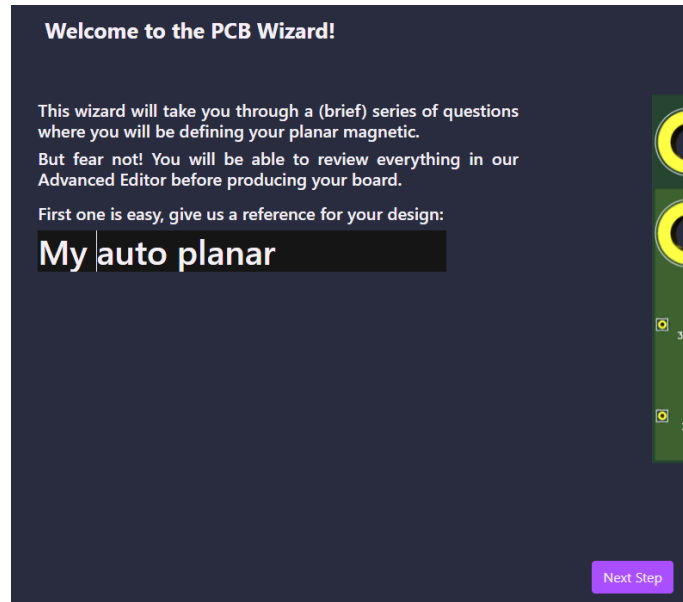

Fig. 11. Naming the design.
Step 1. Welcome: This one works as an introduction and asks for the reference name that will be used to identify the design (Fig. 11).